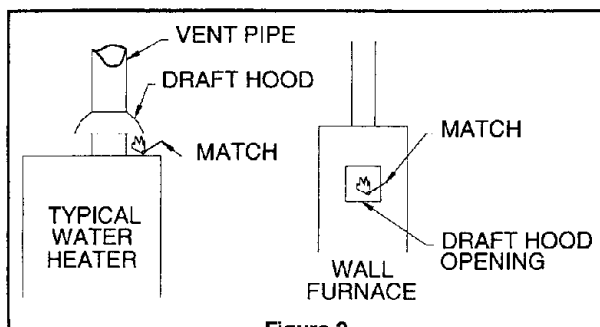

Figure 2
4. Wait ten (10) minutes for drafts to settle.
5. Check for draft hood spillage at each appliance. Hold a lit match two inches from draft opening. (Figure 2).